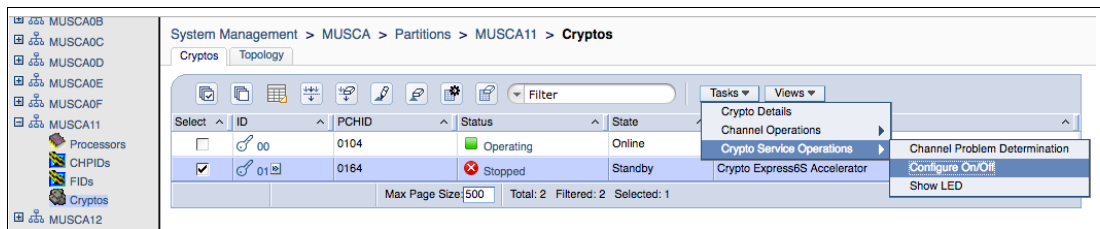

Figure 10-22 Crypto Service Operations: LPAR Crypto Selection, Configure Online
5. Select the cryptographic coprocessor and click **Tasks** → **Crypto Service Operations** → **Configure On/Off task** (see Figure 10-22). This task controls the online or offline (standby) state of a cryptographic processor for logical partitions that are defined in the cryptographic processor’s candidate list.